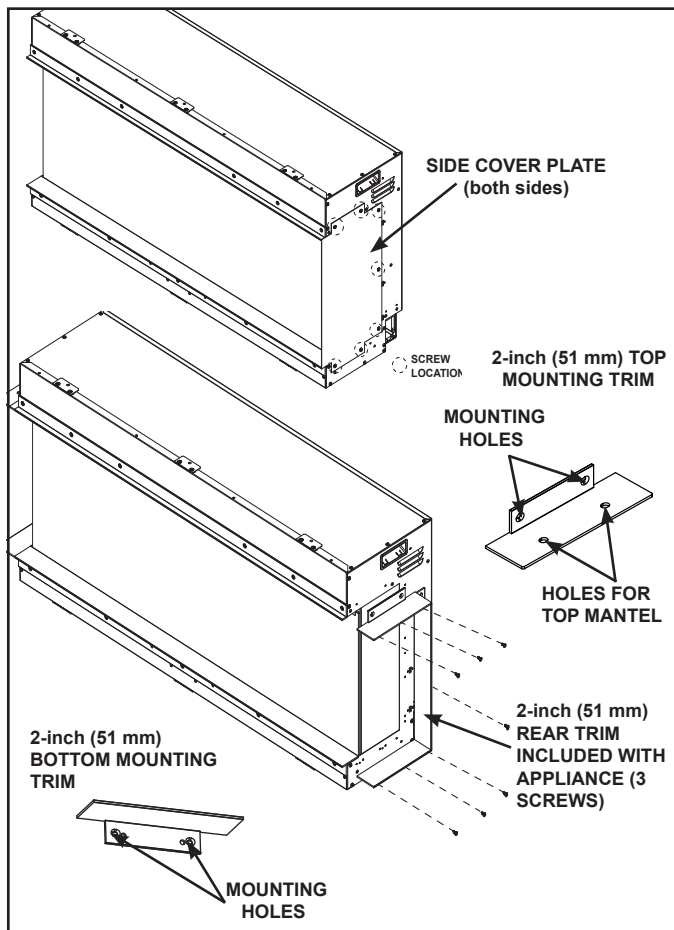

Figure 9
1. Remove flat side cover-plates by removing seven (7) screws on each side. See Figure 9.
Re-use the screws removed from the cover-plates to install the 2-inch (51mm) top mounting trim pieces, provided with the mantel kit, on right and left side of the appliance. See Figure 9. Continue by installing the rear and bottom 2-inch (51mm) trim pieces provided with the appliance.
**Note:** The top 2-inch trim has two extra holes for attaching the top mantel, as shown in Figure 9.